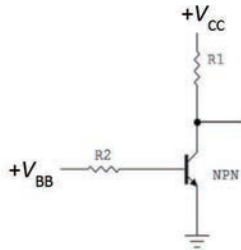

Figure 4.29 Ch 4 – No. 15, self-test
15. Determine if the BJT in Figure 4.29 is saturated for the following values: $R_B = 25 \text{ k}\Omega$, $R_C = 4 \text{ k}\Omega$, $V_{BB} = 5\text{V}$, $V_{CC} = 15\text{V}$, $\beta_{DC} = 75$, and $V_{CE(\text{max})} = 0.2 \text{ V}$. (Assuming a silicon transistor)